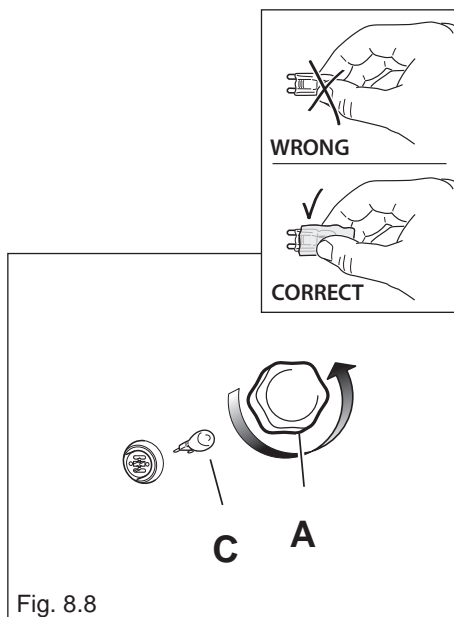

Fig. 8.8
- Remove the protective cover “A” (fig. 8.8).